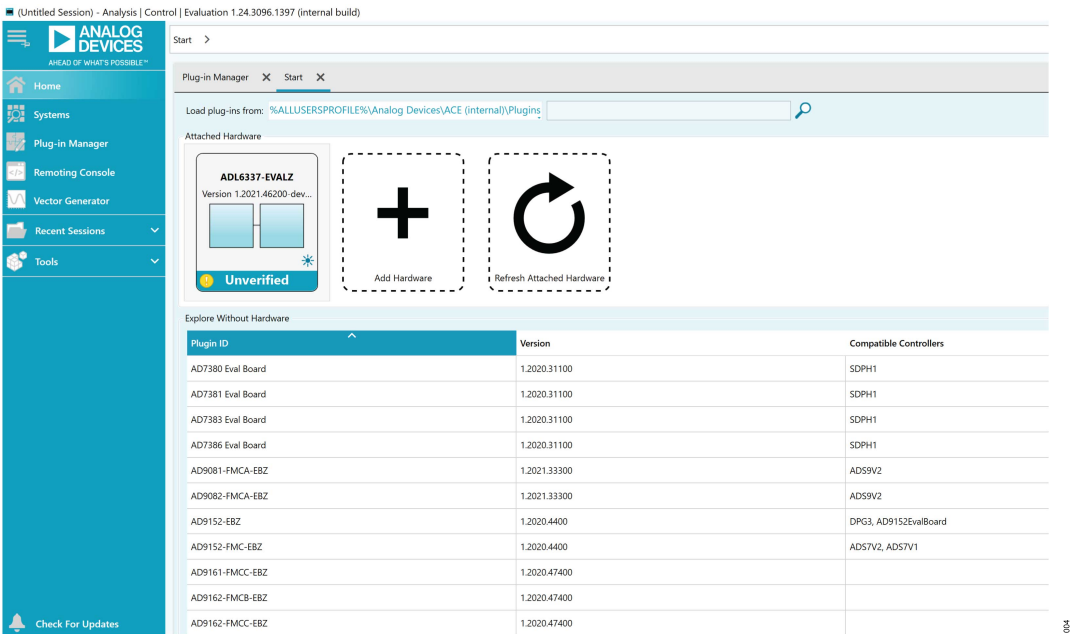

Figure 7. Initial ACE Start Page
3. Launch the ACE application. This action displays the initial ACE start page as shown in Figure 7. The ADL6337-EVALZB is detected automatically and displays under **Attached Hardware**. The current at 5.0 V consumes around 360 mA as soon as the ADL6337 is detected by the ACE software because the ACE software automatically sets TXENP to high. To set the
4. Click the **ADL6337-EVALZB** icon shown in Figure 7 to open the evaluation board level view.